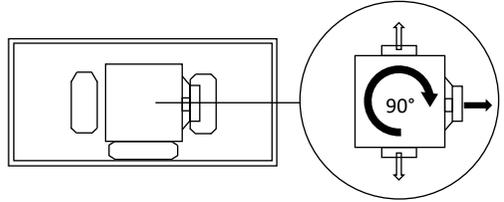

Fig 13
5. On models with motor included the motor can be turned 90 degrees so that you can duct out of any of the sides. Fig 13 – 15 shows the motor ducted out of the side.